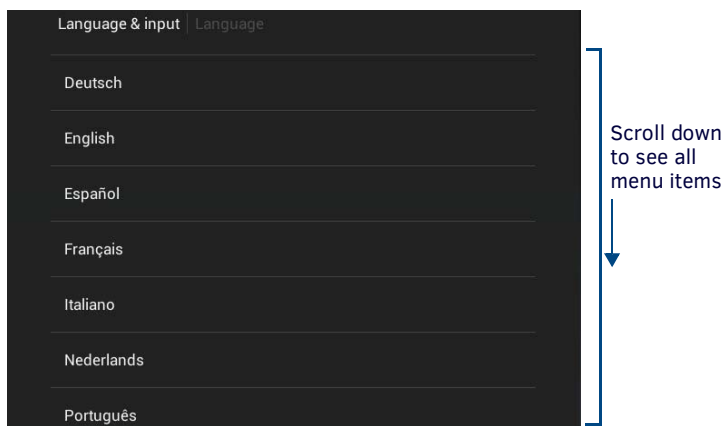

FIG. 69 Language Selection window
1. In the *Language & Input* page, press **Language** to open the *Language* window (FIG. 69).